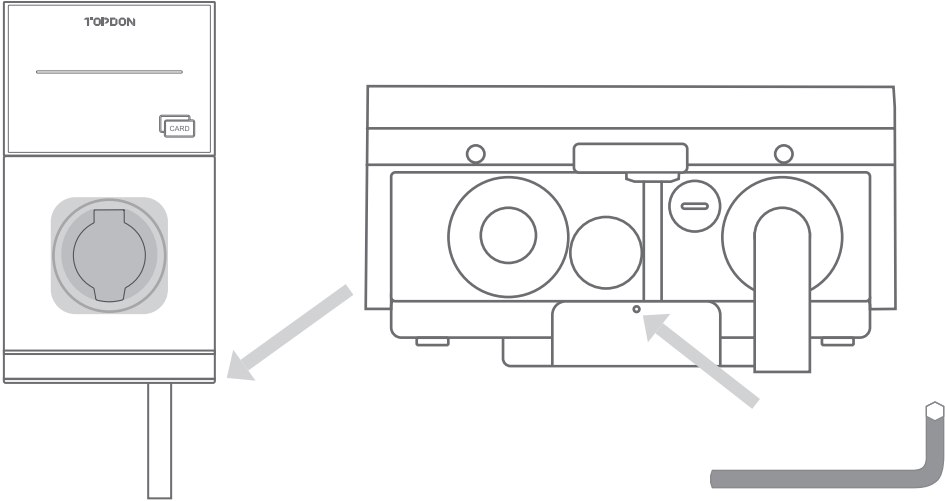

Fig. 4-9
7. Fix the charger to the bracket with the hexagon socket head screw included in the package, using the provided hex screwdriver. (See Fig. 4-9)